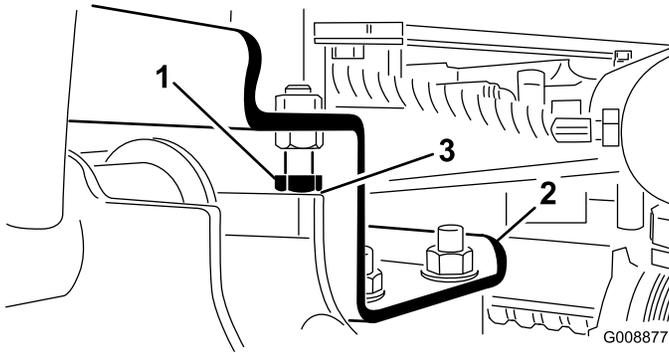

Figure 7
- A. Back off the stop bolts (Figure 7).
2. Check to make sure that the clearance between each lift arm and stop bolt is 0.13 to 1.02 mm (0.005 to 0.040 inch) as shown in Figure 7. If the clearance is not in this range, adjust the stop bolts to attain clearance.